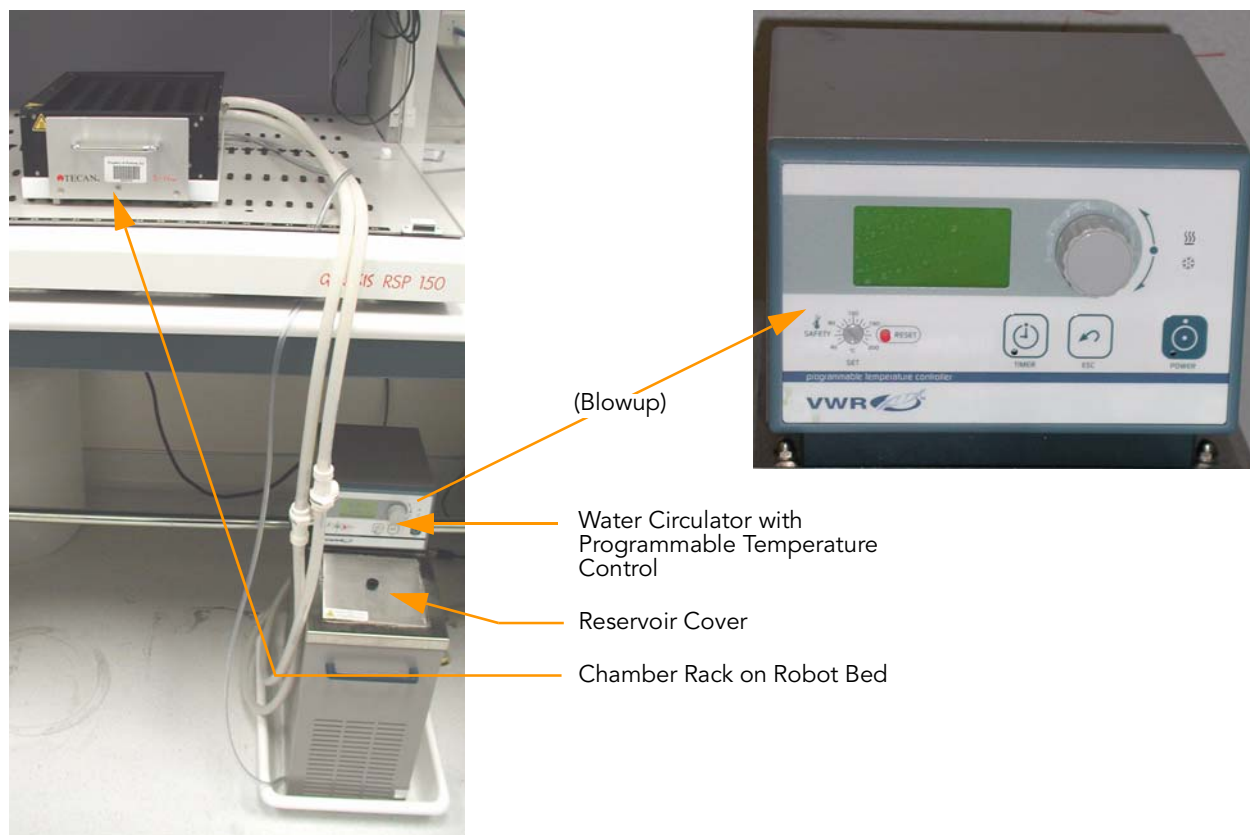

Figure 163 Water Circulator Connected to Chamber Rack
2. Turn on the water circulator and set it to a temperature that brings the Chamber Rack to 44°C at equilibrium (Figure 163).